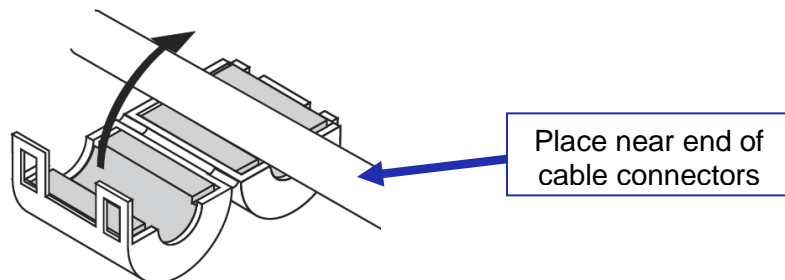

Figure 345: Attaching the Clamp
- Close the ferrite core clamp tightly around the cable (Figure 345).